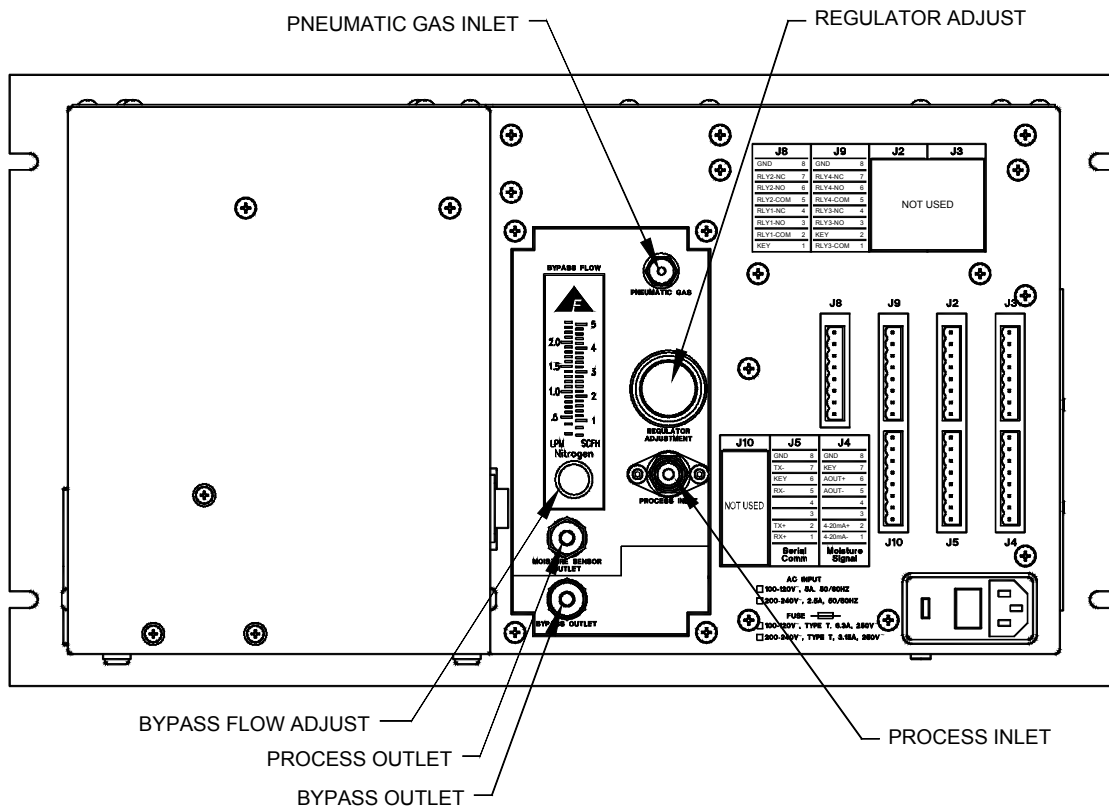

Figure 5: Rear Gas Connections and Controls with Optional Gas Panel
The pneumatic gas connection (required for the optional gas panel) is a 1/8 inch compression fitting as shown in Figure 5 and requires 70 – 125 psig air or N₂ pressure. For ease of installation, the pneumatic feed line can be connected directly to the 1/4 inch aspirator source by way of a 1/8 inch adapter.
- b. Open the flowmeter bypass valve on the rear of the analyzer and flow in the bypass loop will be indicated on the flowmeter. Adjust the flowmeter bypass valve to 0.5 slpm. See Figure 5.